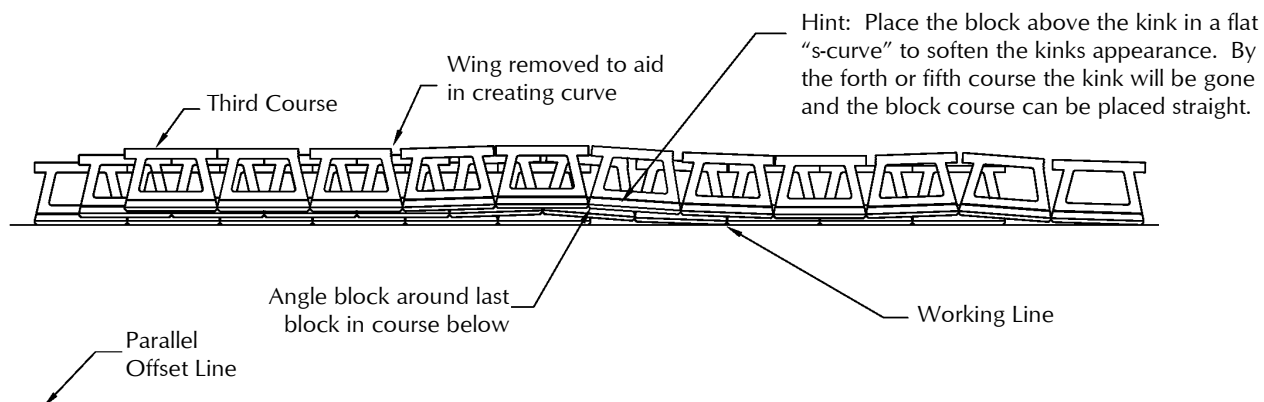

Figure 8: Using a Kink to Build a Straight Wall – Building the Third Course
5. Construct the third course, softening the kink above the end of the base course, see Figure 8.